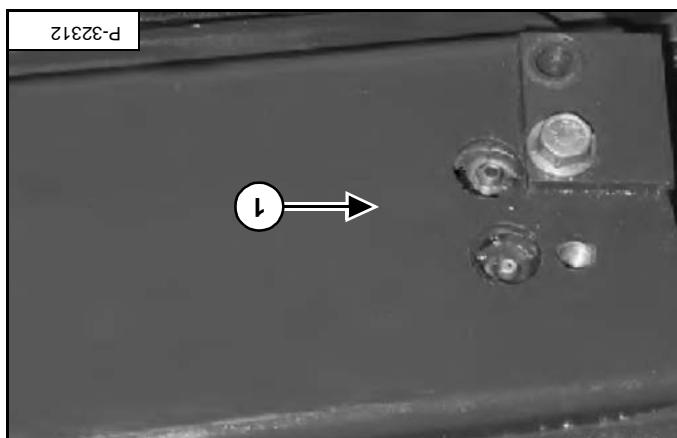

Figure PM-12
Loosen the bleed screw (item 1) [Figure PM-12].